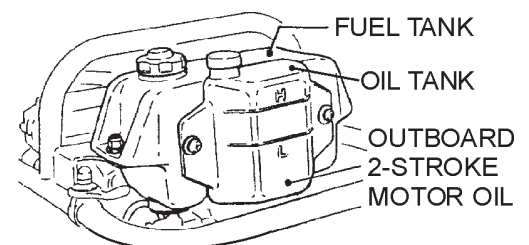

Figure 3. Fuel/Oil Tank
1. Fill the fuel tank (Figure 3) with unleaded gasoline. At the same time, check the engine oil level at the sight gauge located on the operator's side of the oil tank. Fill the oil tank to the "H" level using only outboard (2-stroke) oil. Replenish the oil regularly before the oil level reaches the "L" level of the oil tank.